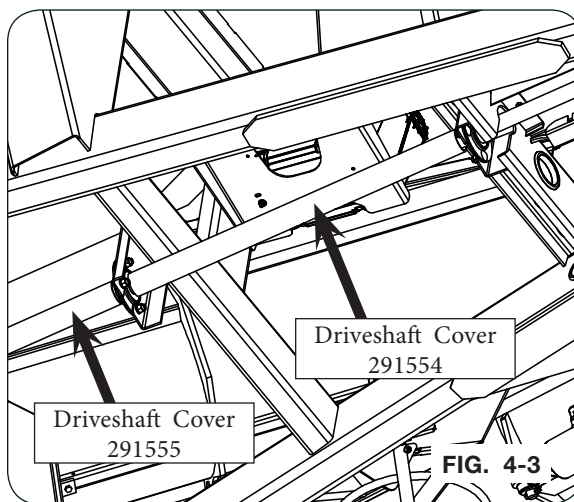

FIG. 4-3
7. When installing new bearings (9003920) onto new driveshaft (9007718), assemble new 25" PVC driveshaft cover (291555) between bearings near the gearbox, and new 36" PVC driveshaft cover (291554) between bearings behind the hitch driveline cover. (FIG. 4-3)
8. Slide the hitch end of the driveshaft, bearing and hitch driveline cover into the bearing near hitch of the cart. (FIG. 4-3)